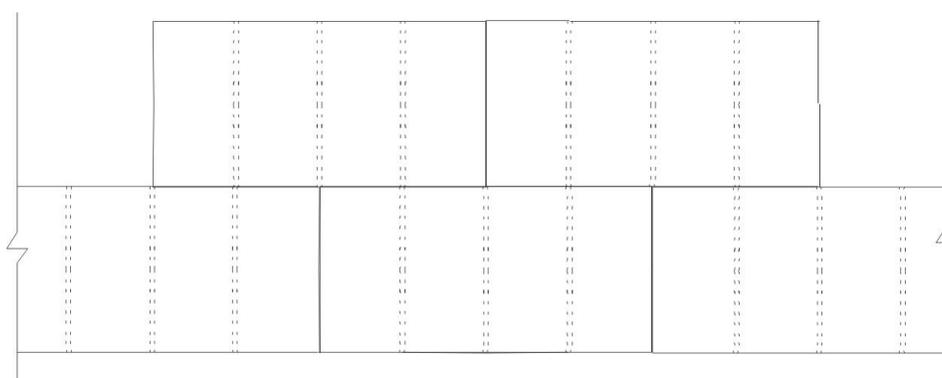

Figure 6
- 8.3.6. Install subsequent rows of insulation board in a running bond pattern (vertical joints staggered) as shown in Figure 6. Please note the alignment of vertical grooves is not required.